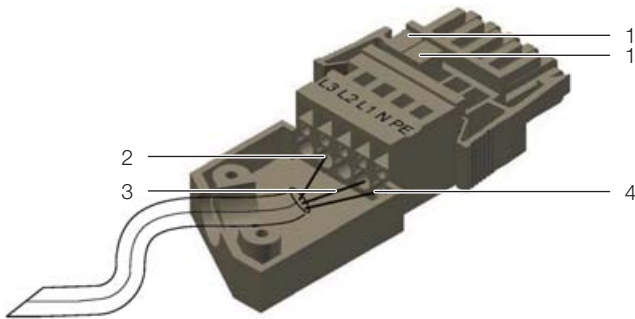

Fig. 45: Schematic diagram of the connector with strain relief housing
- Bypass the phase connections on the connector using the two bridges supplied (fig. 45, item 1). Place one bridge between phase conductors L1 and L2 and one bridge between phase conductors L2 and L3.